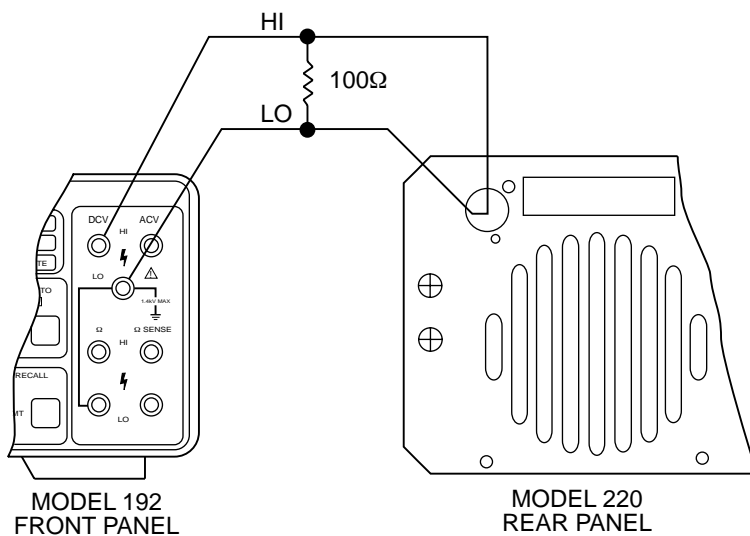

Figure 3-1. 100mA to 1mA Range Verification
1. Connect the Model 224, Model 192 and the 100Ω resistor as shown in Figure 3-1.
1. Replace the 100 Ω resistor in Figure 3-1 with the 100k Ω resistor specified in Table 3-1.